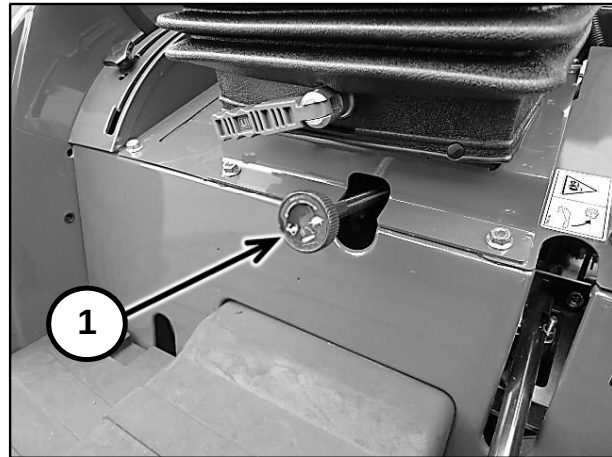

Figure 2-56
The drop rate control valve (1) in Figure 2-56, provides an adjustment to regulate the flow of oil from the lift cylinder. This allows the operator to slow or increase the rate of drop of the lower links.